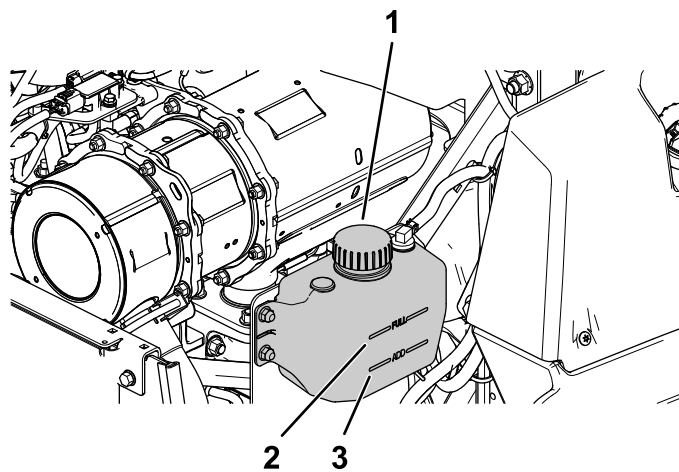

Figure 55
4. Check the level of the coolant in the expansion tank (Figure 55).
5. If coolant level is low, remove the expansion-tank cap, and add the specified coolant (Figure 55).